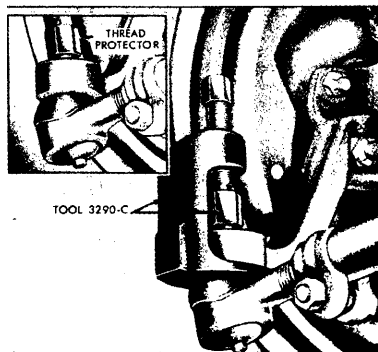

FIG. 8—Pressing Out Ball Stud
1. Remove the cotter pins and nuts from the ball studs in the spindle arms and the steering gear (Pitman) arm. Install the thread protector on the ball stud as shown in the inset in Fig. 8. Install the remover detail making sure the end of the slot in the tool is against the ball stud. Press the ball stud from the arm. **Because of the special design of the ball stud seals, a wedge type ball stud separator must not be used.**